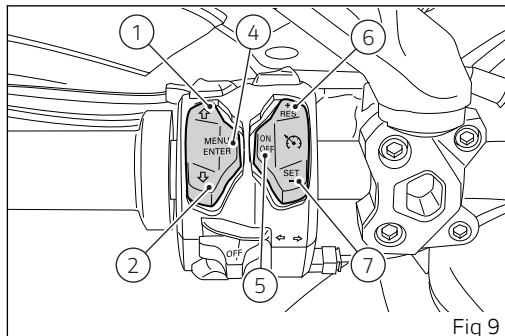

Fig 9
6) CRUISE CONTROL BUTTON - RES (Resume) / + (more) (Fig 9)
7) CRUISE CONTROL BUTTON - SET (Setup) / - (less) (Fig 9)